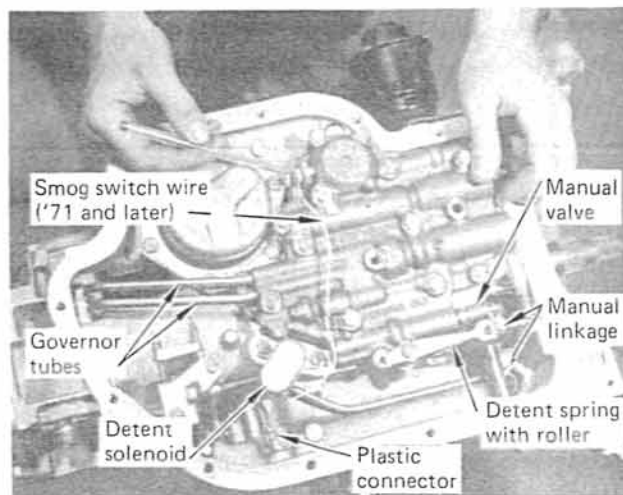

FIGURE 5
**STEP 2.** Observe the location of the following: (See Fig. 5) Manual linkage (shifter) detent spring and roller, engagement
**Type 3:** '71 and later smog two-terminal type. One wire goes to the detent solenoid and the other separate white wire goes to a pressure switch on the valve body. (See Fig. 5)